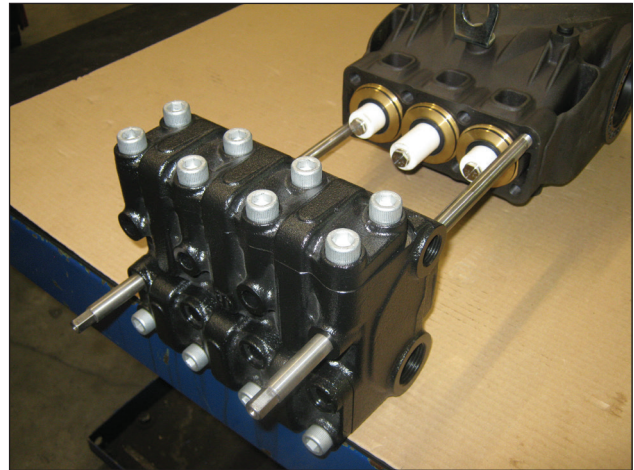

Fig. 28
- B) Lubricate ②③⑤ components with OCILIS silicone grease code 12001600. This operation is deemed necessary to facilitate the lip seal adjustment on the piston.
1. Using two screws – service pins (code 27508200), fasten the casing as indicated in (Fig. 28). Position the complete head, making sure that it is centred only on the central piston.